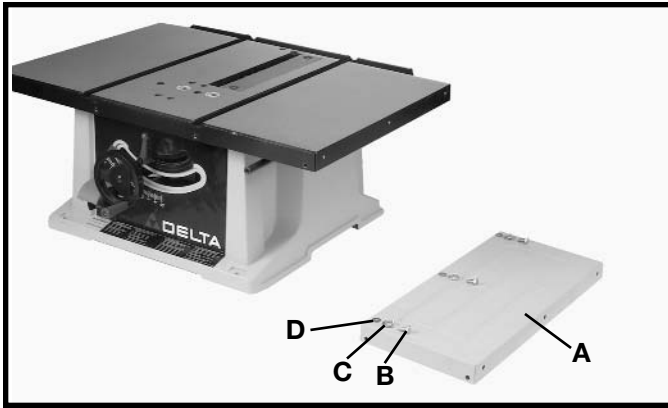

Fig. 18
1. Assemble extension wing (A) Fig. 18, to the saw table using three 1/4-20 x 5/8" hex head screws (B), 1/4" lockwashers (C), and 1/4" flat washers (D).